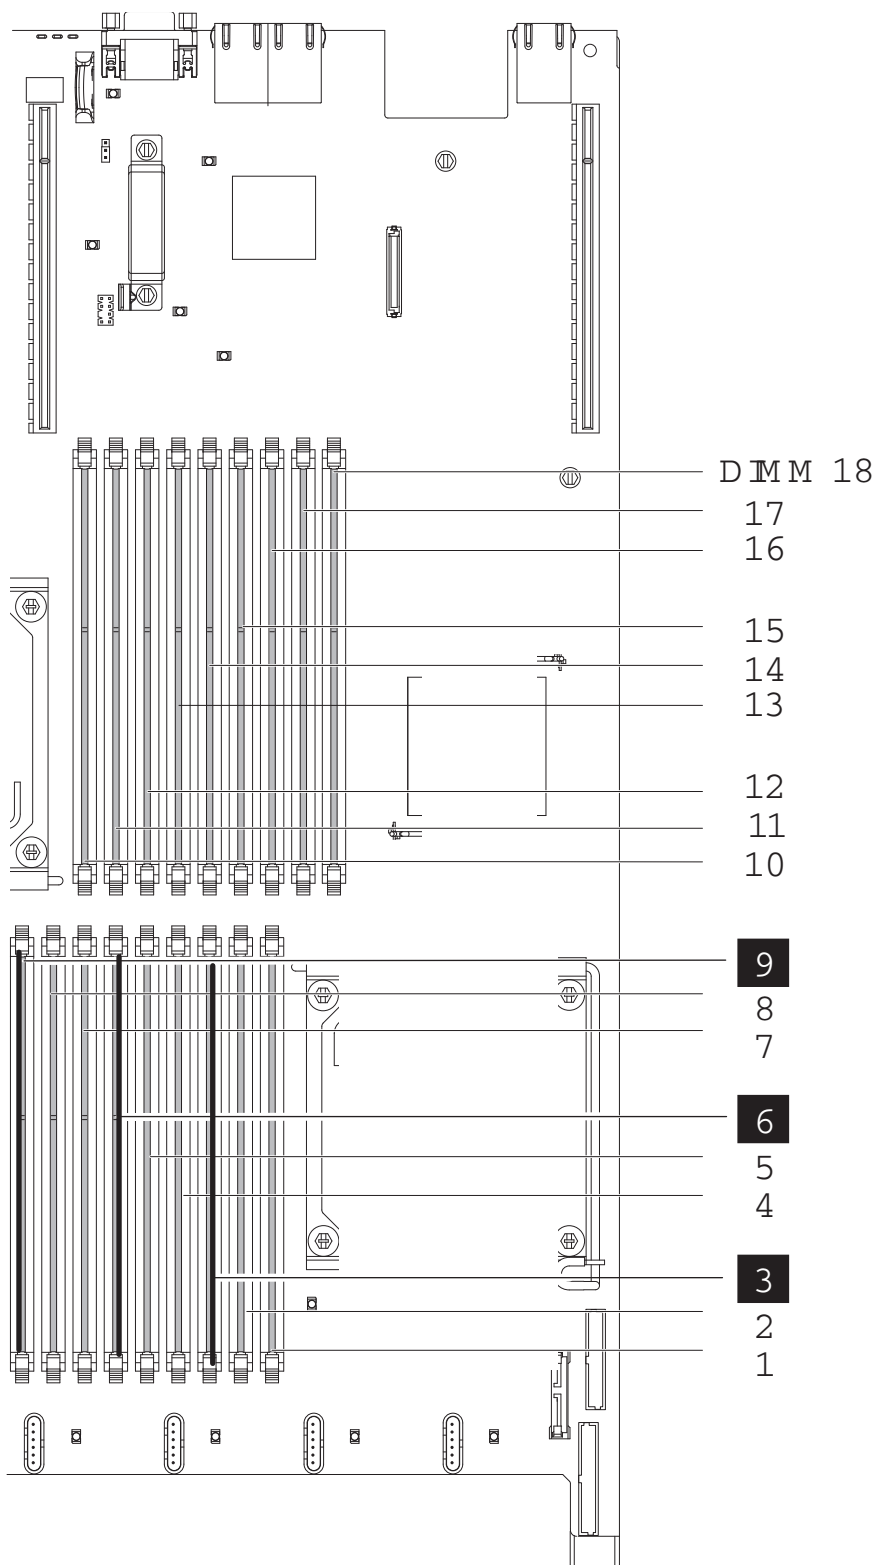

Figure 111. Locating the SAN Volume Controller 2145-CG8 memory modules
- The SAN Volume Controller 2145-CG8 node uses three modules in DIMM slots. **3**, **6**, and **9**, as shown in Figure 111 on page 134.